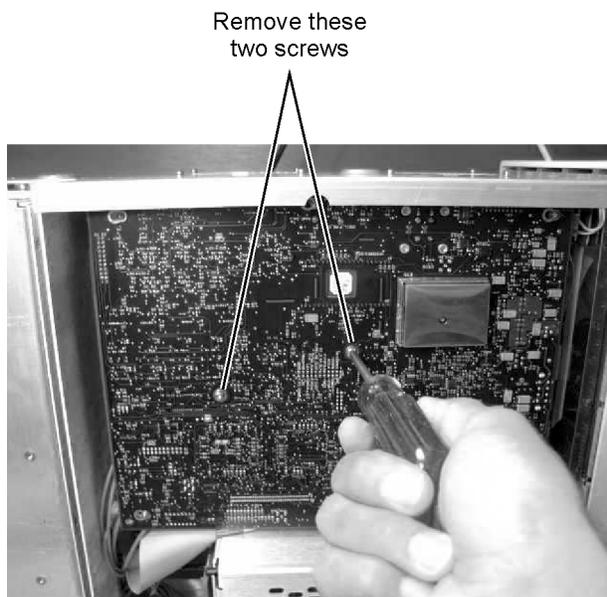

Figure 4-49. Removing the A13 Acquisition Board Screws
- 3 Turn the instrument on its side so that you can access the screws that secure the A13 Acquisition board, then remove the two screws, as shown in Figure 4-49.